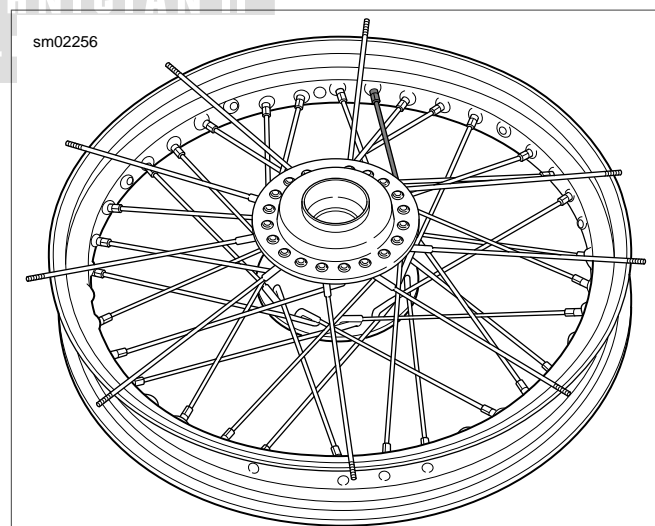

Figure 2-41. Beginning Spoke: Top Flange Outer
18. See Figure 2-41. Finish with top flange outer spokes (short head). Point the top flange outer spokes (short head) counterclockwise and make sure each one crosses four inner spokes before securing it to the rim.